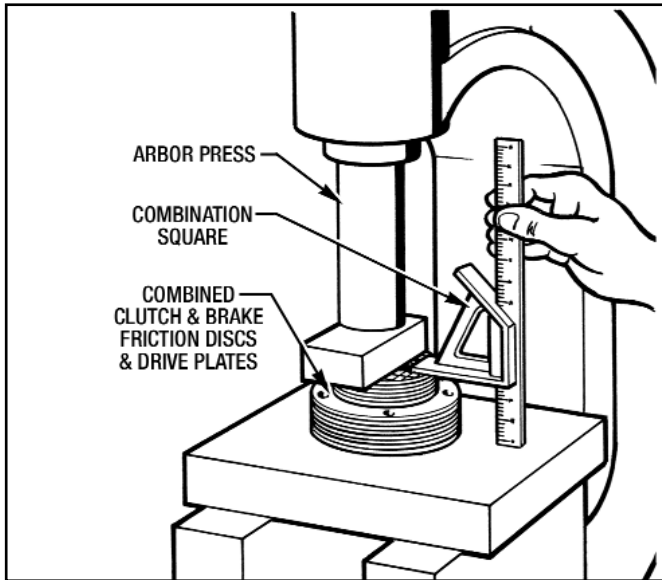

Figure 9.7 - Measuring Stack Height
1. Based on the parts list, place the total number of Friction Discs (#12) and Drive Plates (#13) in an arbor press as shown in Figure 9.7. Clamp firmly and measure the stack height.